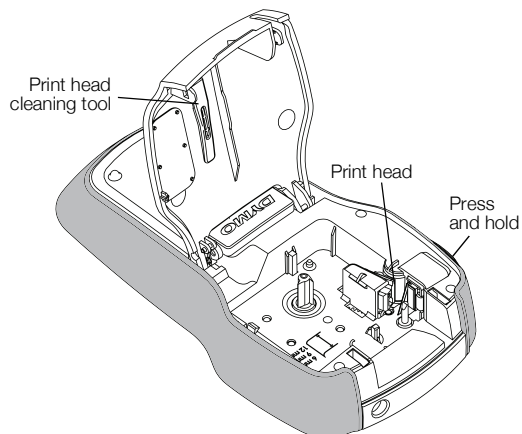

Figure 7
- 2 Press and hold the cutter button to expose the cutter blade. See Figure 7.
- 2 Remove the print head cleaning tool from inside the label compartment cover. See Figure 7.